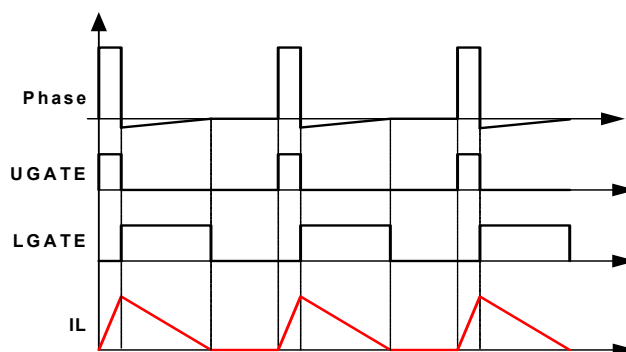

FIGURE 7. DIODE EMULATION
ISL95839 can operate in diode emulation (DE) mode to improve light load efficiency. In DE mode, the low-side MOSFET conducts when the current is flowing from source to drain and doesn't allow reverse current, emulating a diode. As Figure 7 shows, when LGATE is on, the low-side MOSFET carries current, creating negative voltage on the phase node due to the voltage drop across the ON-resistance. The controller monitors the current through monitoring the phase node voltage. It turns off LGATE when the phase node voltage reaches zero to prevent the inductor current from reversing the direction and creating unnecessary power loss.
If the load current is light enough, as Figure 7 shows, the inductor current will reach zero before the next phase node pulse and the regulator is in discontinuous conduction mode (DCM). If the load current is heavy enough, the inductor current will never reach 0A, and the regulator is in CCM although the controller is in DE mode.